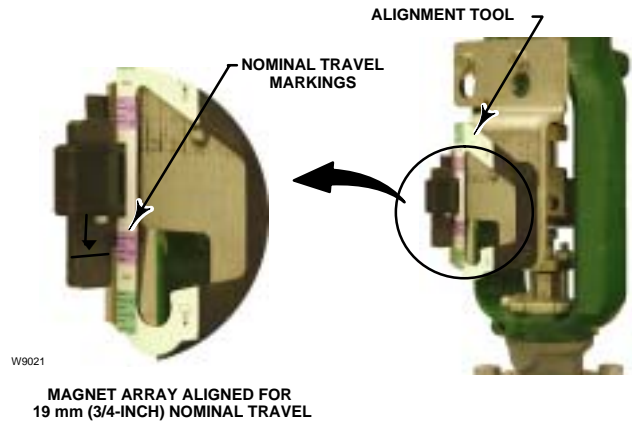

Figure 2-4. Air-to-Open Magnet Array Alignment
4. Find the mark on the **lower** travel scale that corresponds with the actual valve travel. See figure 2-4.